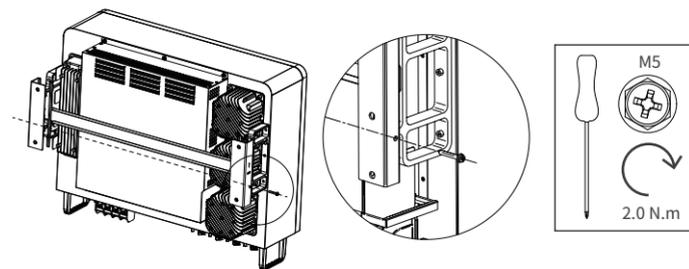

Fig 2.3 Wall mounted bracket
- Lift the inverter and align the rear bracket of the inverter with the convex of the mounting bracket. Hang the inverter on the mounting bracket and make sure it is secure (see Figure 2.3).